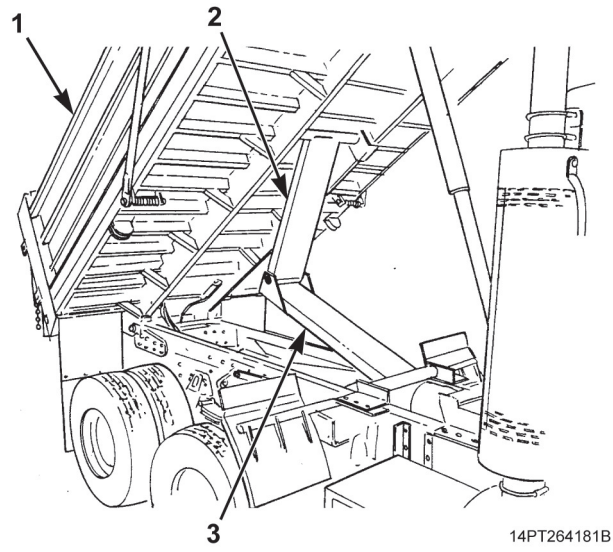

Figure 5. Stabilizer Up.
2. Secure lower half (Figure 5, Item 3) of stabilizer to upper half (Figure 5, Item 2) and to dump body (Figure 5, Item 1) using a suitable chain or nylon strap.
3. Attach suitable lift with chains at four corners of dump body (Figure 5, Item 1). Take up slack in chains with lift.